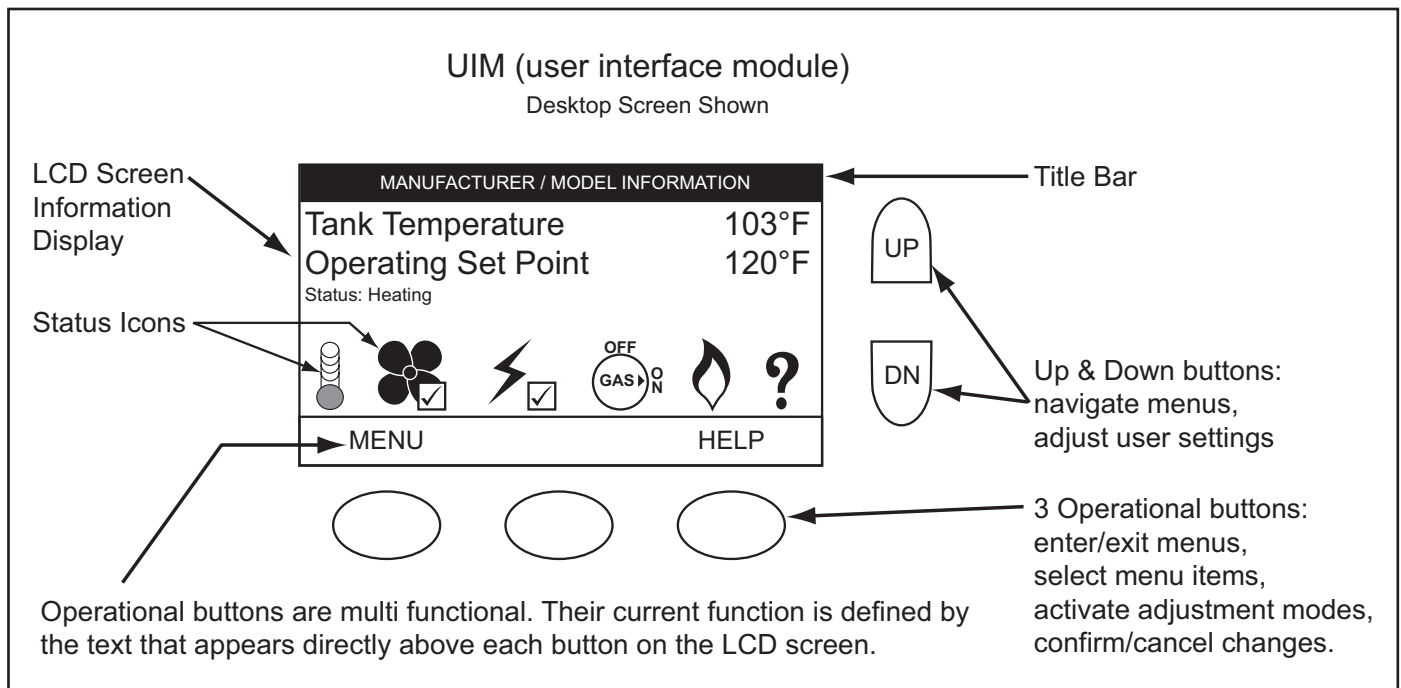

Figure 55
All operational information and user settings are displayed and accessed from the UIM. The UIM houses the control system's LCD (liquid crystal display) and five snap acting (momentary) user input buttons; an up, down and three (3) multi functional operational buttons below the LCD, see Figure 55.
The Status Icons are displayed on the Desktop screen and convey operational and diagnostic information. The icons are described in the table below. See Figure 55 on page 41 and the Sequence Of Operation on page 54.
The current operational state of the water heater is displayed on the Desktop screen as the "Status." The common operational states are described in the table below. See Figure 55 on page 41 and the Sequence Of Operation on page 54.